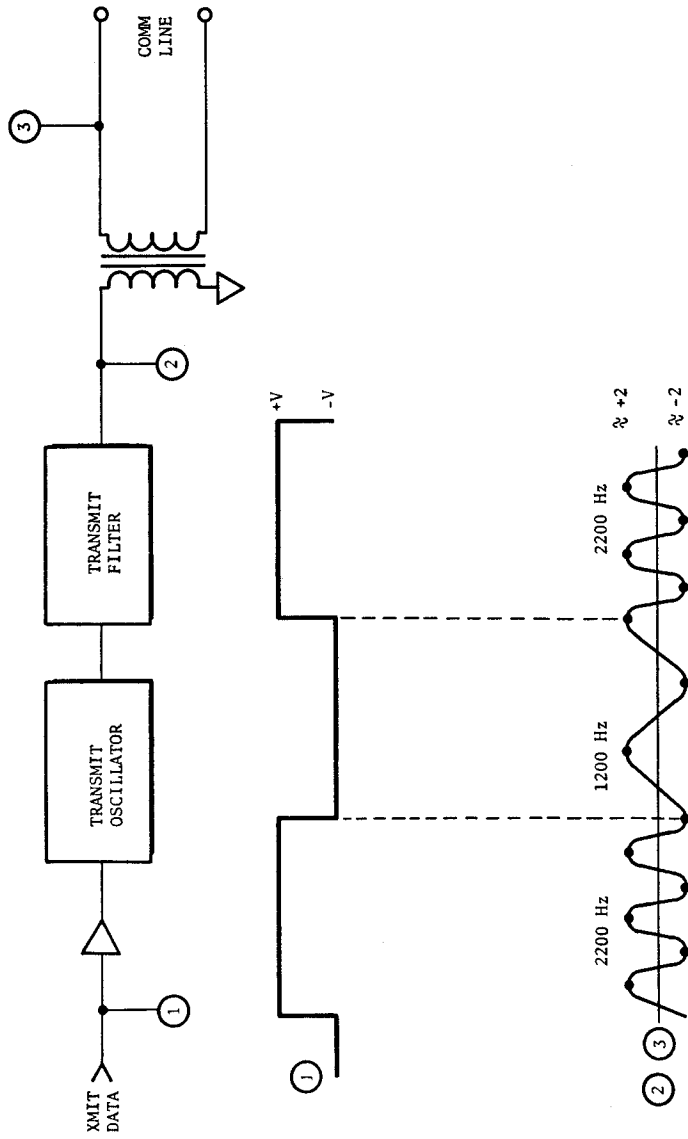

Figure 4-1. Transmitter Timing
4.2 TRANSMITTER (See Figure 4-1)